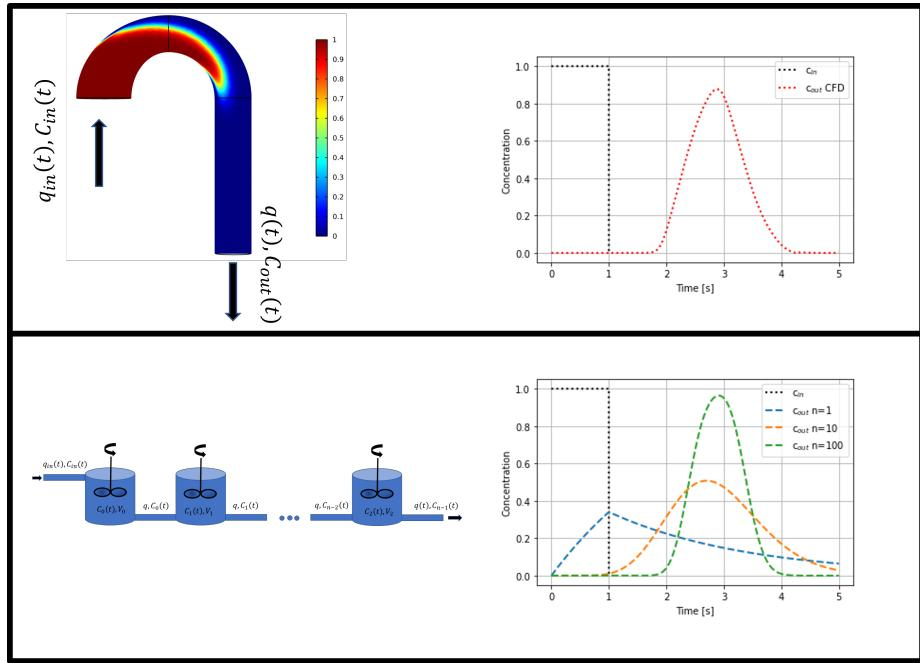

Figure 1: Top: A CFD simulation of an aorta arch. Bottom: A model with  $n$ -mixing tanks in a series.
**Graphical Abstract.** In this project we are investigating if we can replace a complicated 3D computational fluid dynamics simulation with a set of ordinary differential equations, as in figure 1.
In this project, a CFD solver has been used to produce data for us: The CFD solver is our "experimental lab". To match results from the CFD simulations, we are going to implement a much simpler approach, namely a Continuous-Stirred-Tank-Reactor (CSTR) model with  $n$  tanks in series [ch.18][3]. The key idea we are going explore is illustrated in figure 1.
The top part of figure 1 illustrates what happens when a square pulse of contrast agent is injected into an aorta arch. The left plot shows a snapshot of the spatial distribution of contrast agent after 1 second, while the right plot shows the sampled effluent concentration (the concentration coming out) as a function of time. We want to investigate whether we can use a simple model with  $n$ -tanks in a series to predict the same *effluent* concentrations. Clearly, we will not be able to match the concentration *inside* the aorta arch. However, if we can reproduce the effluent concentration with the  $n$ -tank model (the value of  $n$  has to be determined from the data), we can use the simple model to determine important parameters of the system, such as the volume of the aorta arch. Subsequently, the model could become an important diagnostic tool.